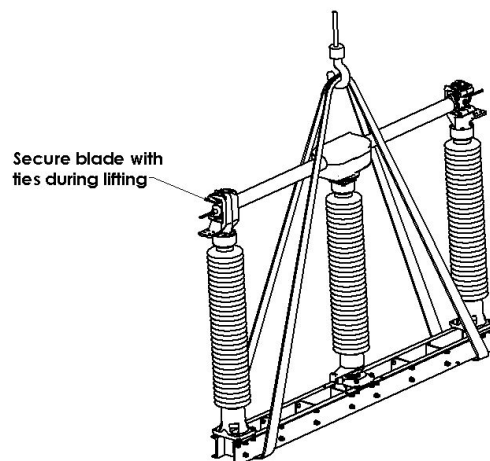
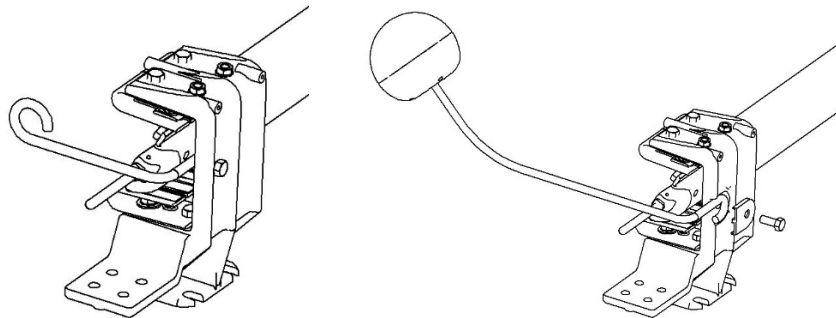

Figure 12: Sling Attachment
Figure 13: Arcing Horn Attachment
10. Install the arcing horn on each jaw as shown in Figure 13. The horns should touch lightly throughout their stroke. **Arcing horns rubbing together with excessive pressure can cause the blade to rotate outside the contacts, causing switch malfunction.** Bend the stationary horn as required to achieve enough pressure for contact, but not so much as to cause binding. (See Figures 12 and 13.)